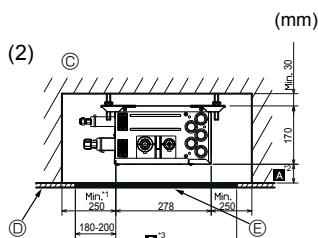
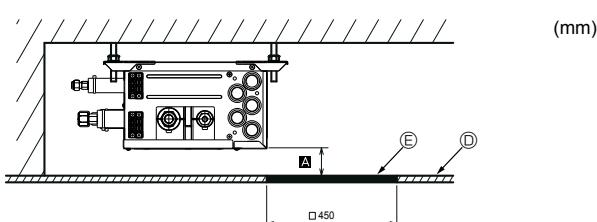

Fig. 4-7
Fig. 4-8
(2) Side View (Fig. 4-7, Fig. 4-8)
In the case of “□ 450 mm”, prepare a maintenance hole at a PCB side (as it is shown in Fig. 4-8), and “Min. 300 mm” is needed as distance Ⓛ.